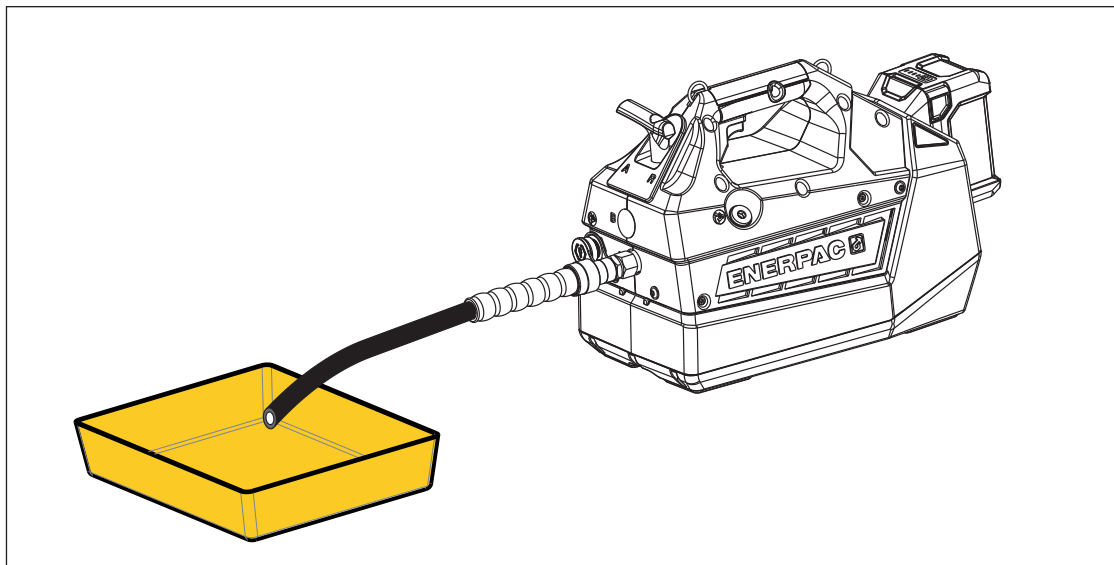

Figure 15: Draining the Hydraulic Reservoir
8. Pull the trigger switch upward to start the pump motor and begin draining the reservoir. Continue running the motor until oil stops flowing from the open-ended hose. Then, release the trigger switch. See Figure 15.